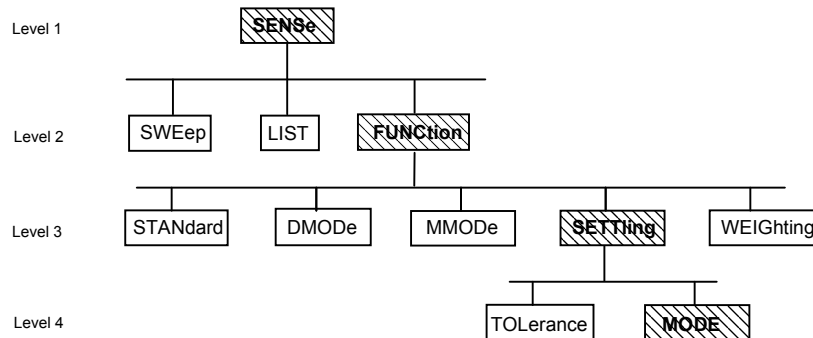

Fig. 3-1 Tree structure of SCPI command system, SENSe being shown as an example
SCPI (Standard Commands for Programmable Instruments) describes a standardized command set for the programming of instruments regardless of the type of instrument or manufacturer. The goal of the SCPI Consortium is to standardize device-specific commands to a large extent. For this purpose an instrument model has been developed which defines identical functions within an instrument or of different instruments. Command systems have been generated and assigned to these functions so that it is possible to address identical functions by the same commands. The command systems have a hierarchical structure. Fig. 3-1 shows this tree structure, using a detail from the SOURCE command system for controlling the signal sources of the instrument. The other examples of syntax and structure of the commands are taken from this command system.
**Hierarchy** Device-specific commands have a hierarchical structure (see Fig. 3-1). The various levels are represented by compound headers. Headers of the highest level (root level) have one keyword only. This keyword stands for a whole command system.
If the successive commands belong to the same system and therefore have one or several common levels, the command line may be shortened. The second command following the semicolon then starts at the level that is below the common levels (see also Fig. 3-1). The colon after the semicolon has to be omitted.